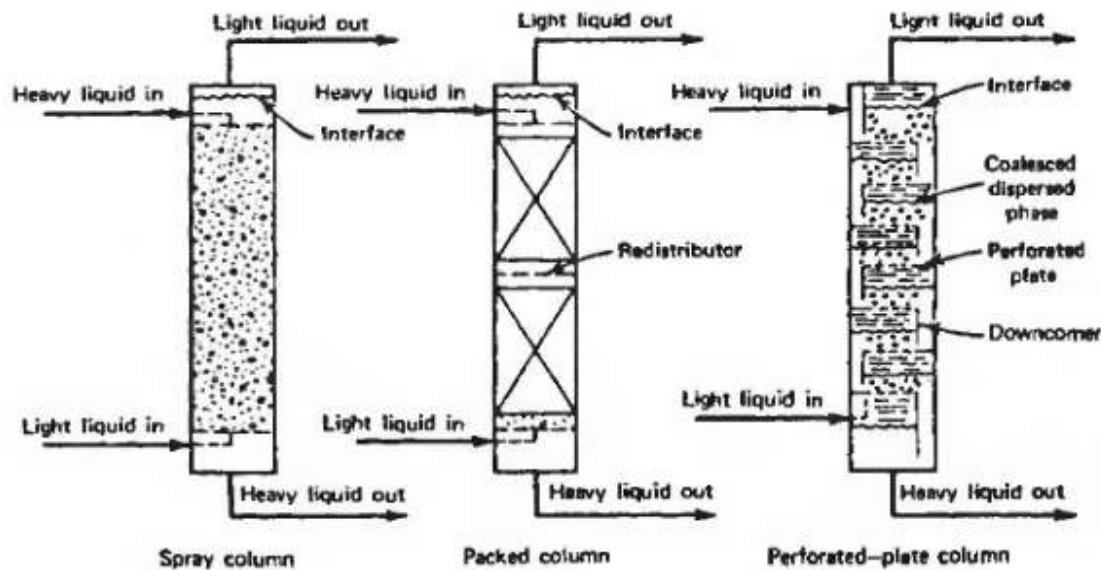

Figure 10-2. Continuous countercurrent extractors - unagitated.
- A true continuous extraction requires that fresh solvent continuously flow through the sample and that fresh sample be continuously flowing in the opposite direction. If the system is designed properly, the compound of interest will be completely extracted from the sample just as the sample reaches the end of the apparatus, and the extracting solvent will be saturated with the extracted compound when it reaches the end of the apparatus. Several such continuous countercurrent extractors are shown in Figure 10-2.